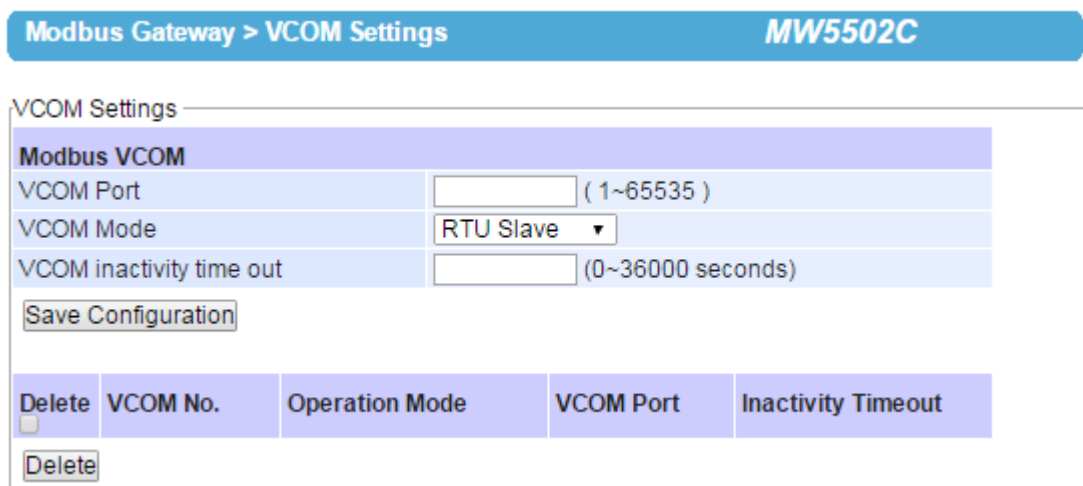

Figure 4.42 VCOM Settings Web Page
Figure 4.42 shows the page of VCOM Settings in which the VCOM number 1 is set as an RTU Slave. This means that a device that is connected to this VCOM port on the Modbus Gateway will be a Modbus Slave node and communicate with a Modbus Master node using Modbus/RTU protocol. It is an interface concept that allows Modbus Slave devices to be connected via TCP connection by using VCOM from a PC (for example). If a VCOM setting is needed, proceed to select **Modbus Gateway** → **VCOM Settings**.
- **VCOM Mode:** This setting is a pull-down menu in which the user can select the **Operation Mode** of the devices connected through this VCOM port as shown in Figure 4.42. Its definition is the same to the one given in Section 4.5.2. Here the user can choose whether device conforms to a RTU or an ASCII message format and can select whether the device is either Modbus Slave node or Modbus Master Node. Figure 4.42 depicts the